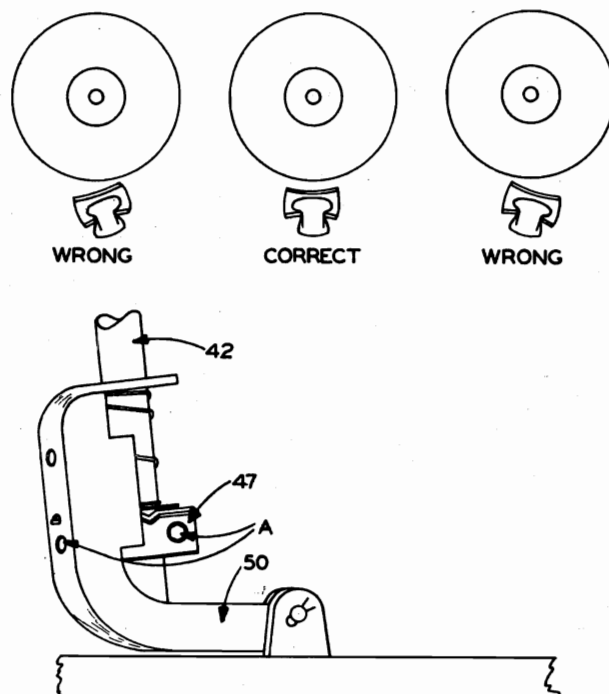

Fig. 7
The Record Selector Post should be adjusted so that the curve of the shelf matches the curve of the record. See Fig. 7.
3. With a No. 8 Bristol wrench in each of the set screws (point A, Fig. 7), alternately loosen one and tighten the other until the Record Selector post angle is correct. Be sure that both set screws are tight at the completion of this adjustment.